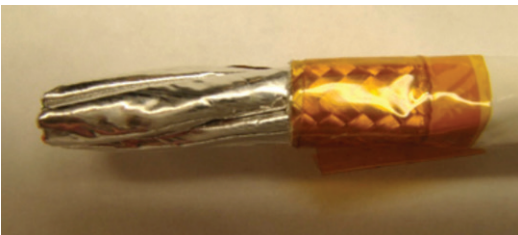

Figure 7: Removing the braid
5. Remove the braid so that it is flush with the tape (Figure 7).